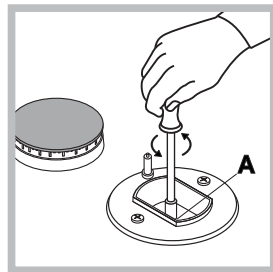

Fig. 7
- unscrew the nozzles (fig. 7) using a 7 mm socket spanner, and replace them with nozzles for the new type of gas (see table 1 “Burner and nozzle characteristics”).